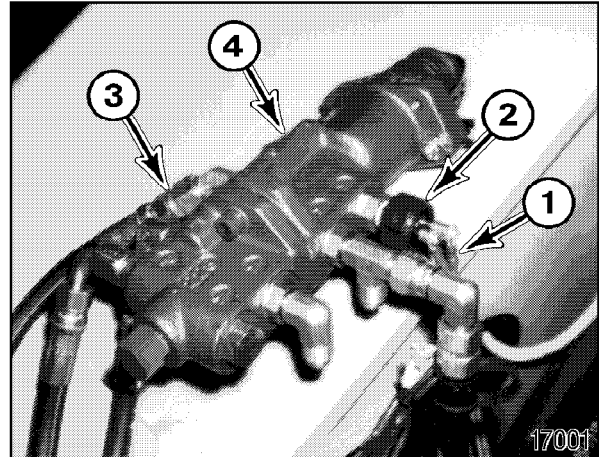

Figure 11
- Securing brake valve (2, ?) to mounting bracket with two flat washers (4) and bolts (3).
- Connect all hoses (3, Figure 11) to brake valve (4) as tagged during removal.
- Connect electrical leads (1, Figure 11) to brake pressure switch (2) as tagged during removal.